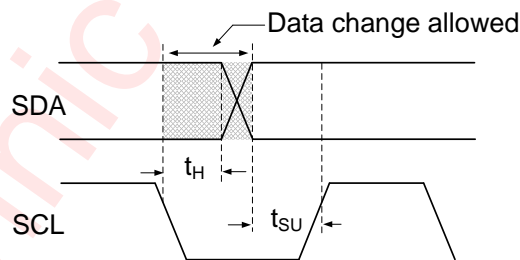

Figure 4. Data Transfer Timing
Each bus transaction begins and ends with SDA and SCL HIGH. A transaction begins with a START condition, which is defined as SDA transitioning from 1 to 0 with SCL HIGH, as shown in Figure 4.
The protocols for High-Speed (HS), Low-Speed (LS), and Fast-Speed (FS) Modes are identical; except the bus speed for HS Mode is 3.4MHz. HS Mode is entered when the bus master sends the HS master code 00001XXX after a START condition (Figure 4). The master code is sent in Fast or Fast-Plus Mode (less than 1 MHz clock); slaves do not ACK this transmission.